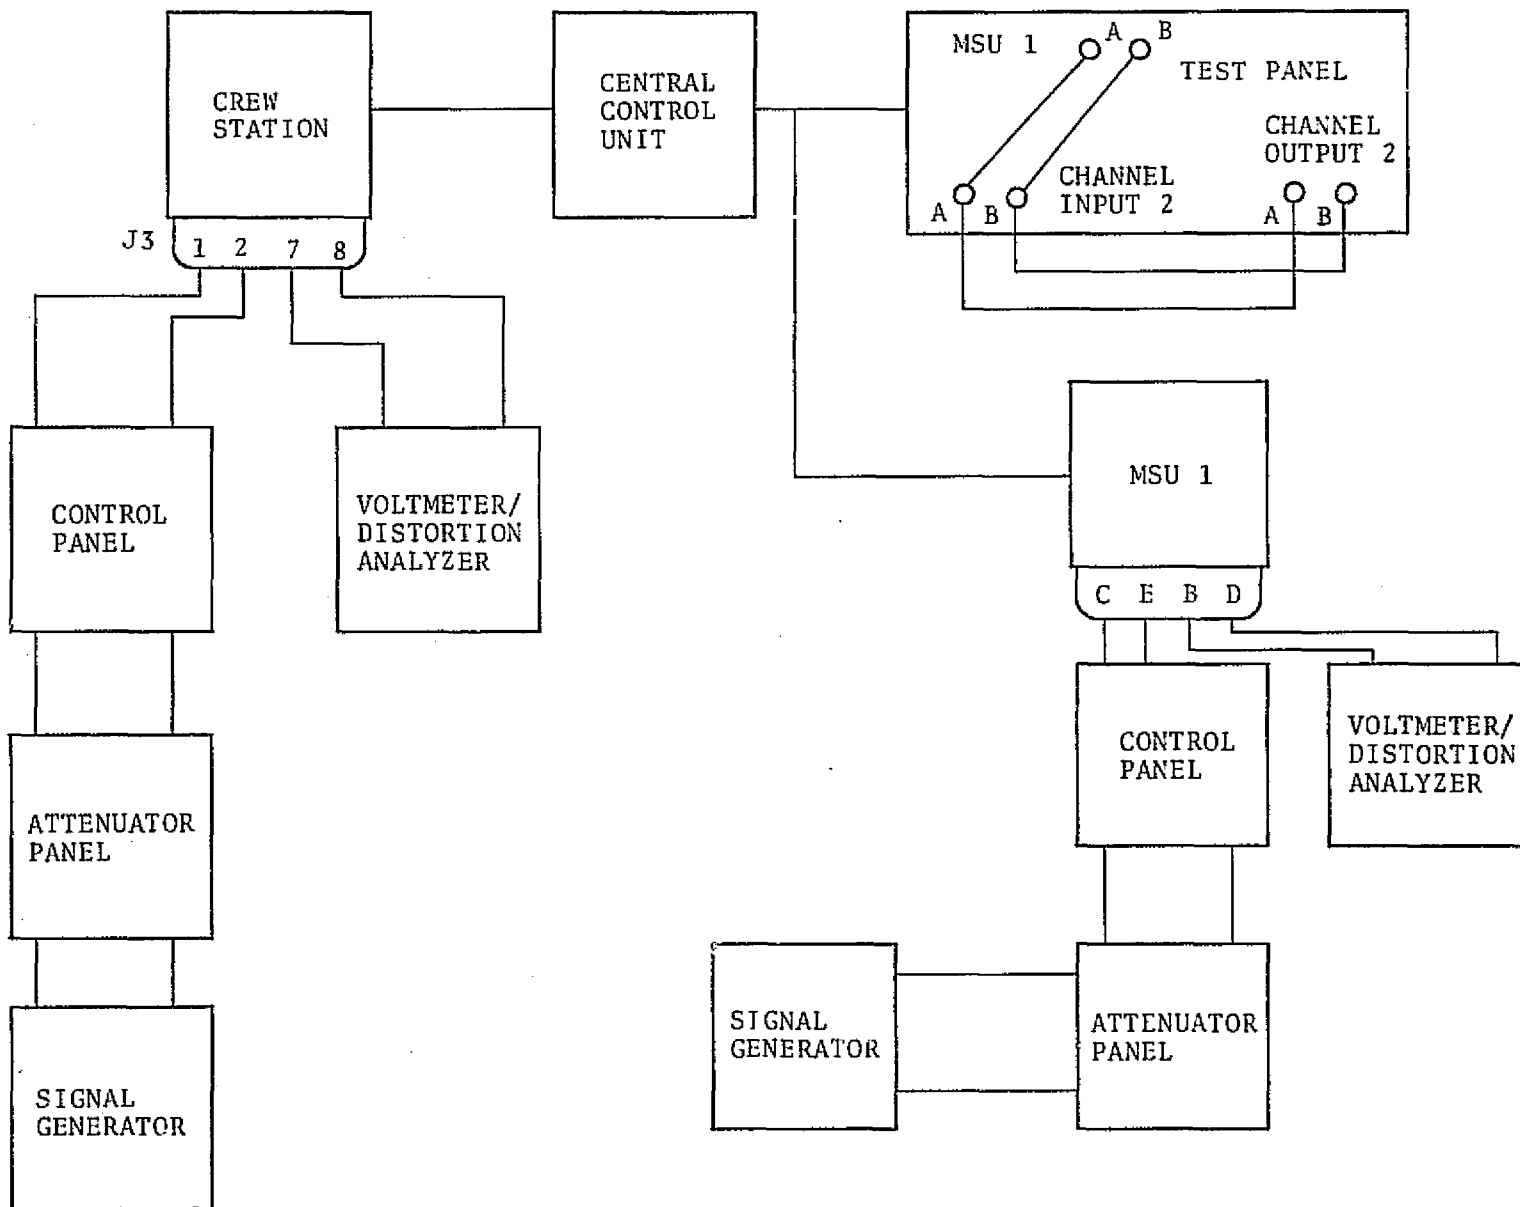

Figure 6-5. — MSU test setup.
1. Connect the equipment as shown in figure 6-5.